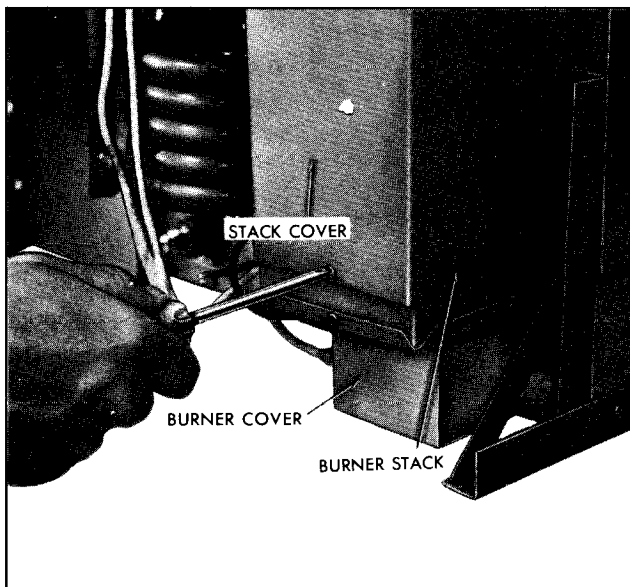

Figure 1—Removing Plate on Burner Stack
2. Remove stack cover from burner stack (figure 1).
1. At rear of refrigerator, remove burner cover (figure 1) by removing two screws and sliding it out of position.